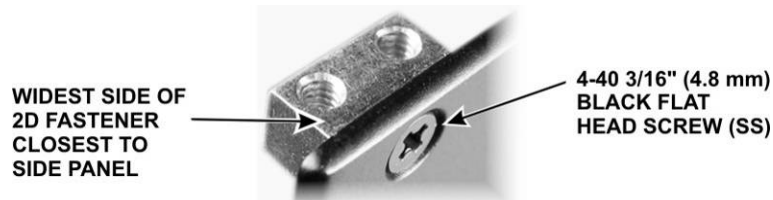

Figure 64. Installing Left Side Panel 2D Fastener.
□ Mount a 2D fastener at the top rear corner of the panel with a 4-40 3/16" (4.8 mm) black flat head screw (SS) as shown in Figure 64. Do *not* use washers. Be sure the 2D fastener is oriented correctly as shown in the figure.